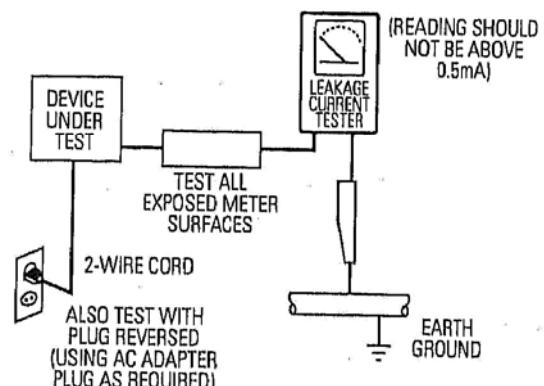

Fig. 1-1 AC Leakage Test
(2) Be sure that there are no cabinet openings through which adults or children might be able to insert their fingers and contact a hazardous voltage. Such openings include, but are not limited to, excessively wide cabinet ventilation slots, and an improperly fitted and/or incorrectly secured cabinet back cover.
(3) Leakage Current Hot Check-With the instrument completely reassembled, plug the AC line cord directly into a 110-240V AC outlet. (Do not use a isolation transformer during this test.) Use a leakage current tester or a metering system that complies with American National Standards Institute (ANSI) C101.1 Leakage Current for Appliances and Underwriters Laboratories (UL) 1270 (40.7). With the instrument's AC switch first in the ON position and then in the OFF position, measure from a known earth ground (metal water pipe, conduit, etc.) to all exposed metal parts of the instrument (antennas, handle brackets, metal cabinets, screwheads, metallic overlays, control shafts, etc.), especially any exposed metal parts that offer an electrical return path to the chassis. Any current measured must not exceed 0.5mA. Reverse the instrument power cord plug in the outlet and repeat the test. See Fig. 1-1.